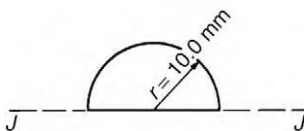

Figure 7.22
4. For the semicircle shown in Figure 7.22, find the second moment of area and radius of gyration about axis JJ